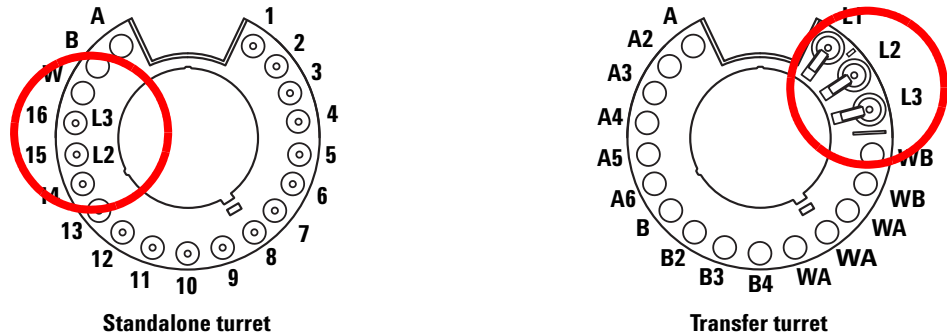

Figure 57 Turret vial locations for sandwich injections
When loading vials for sandwich injections, layer 1 (L1) can be placed in any turret position 1-14 if using a standalone turret, or in any tray location 1-150 if using a transfer turret with sample tray. The vials for layer 2 (L2) and layer 3 (L3) must be placed in turret positions **L2** and **L3** (Figure 57), respectively.
- 3 Place the solvent B vial (L3) in turret position **L3**. Refer to Figure 57 on page 185 for turret position information.